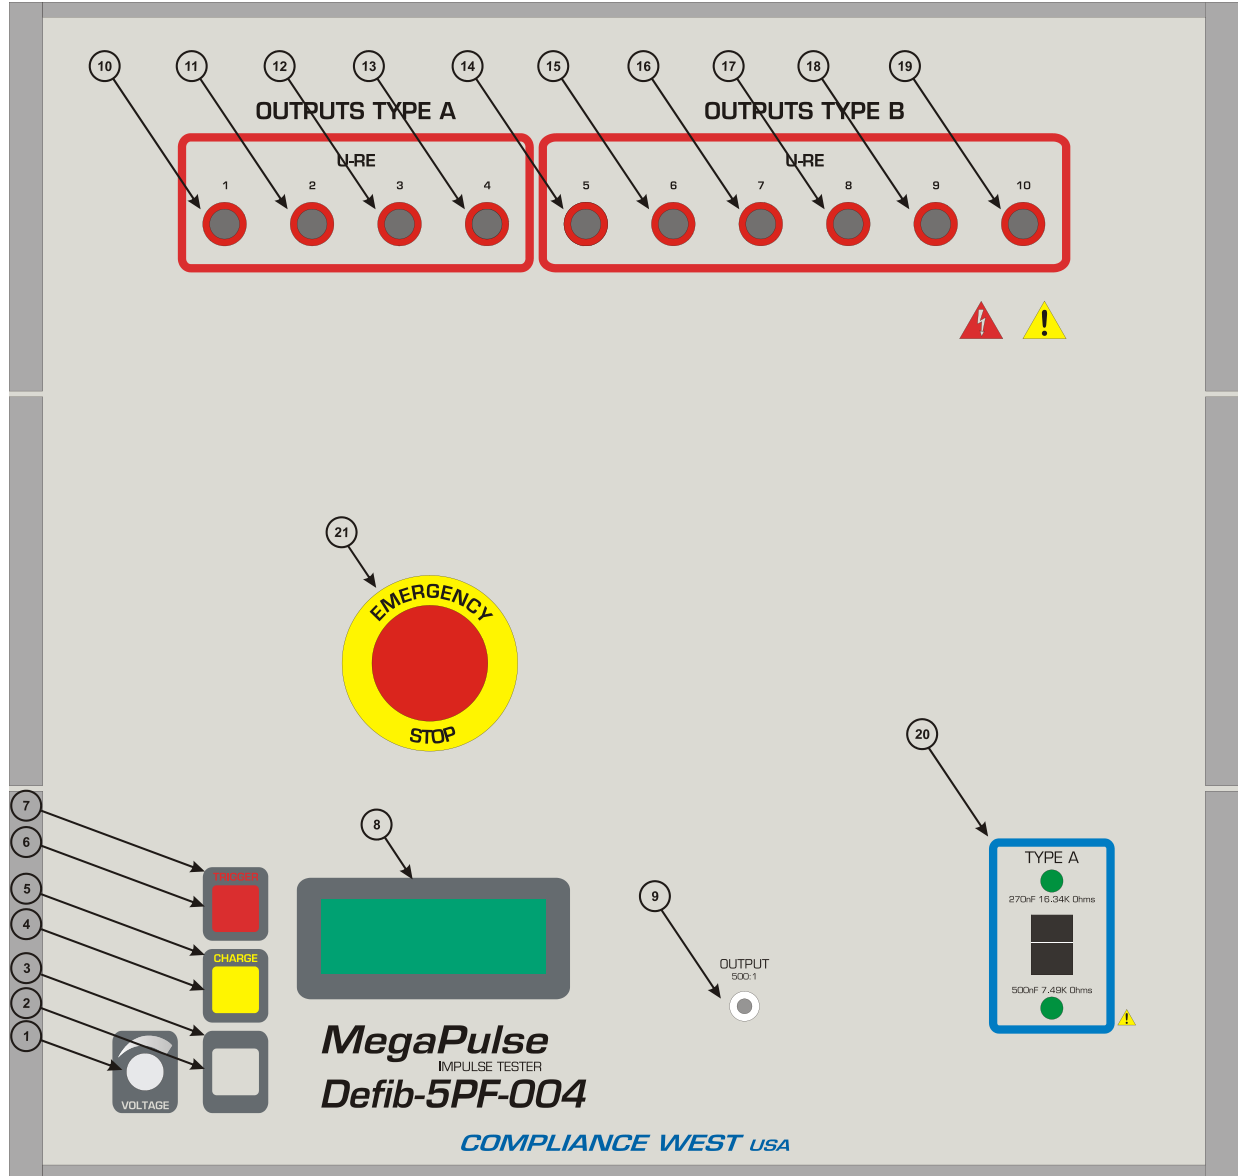
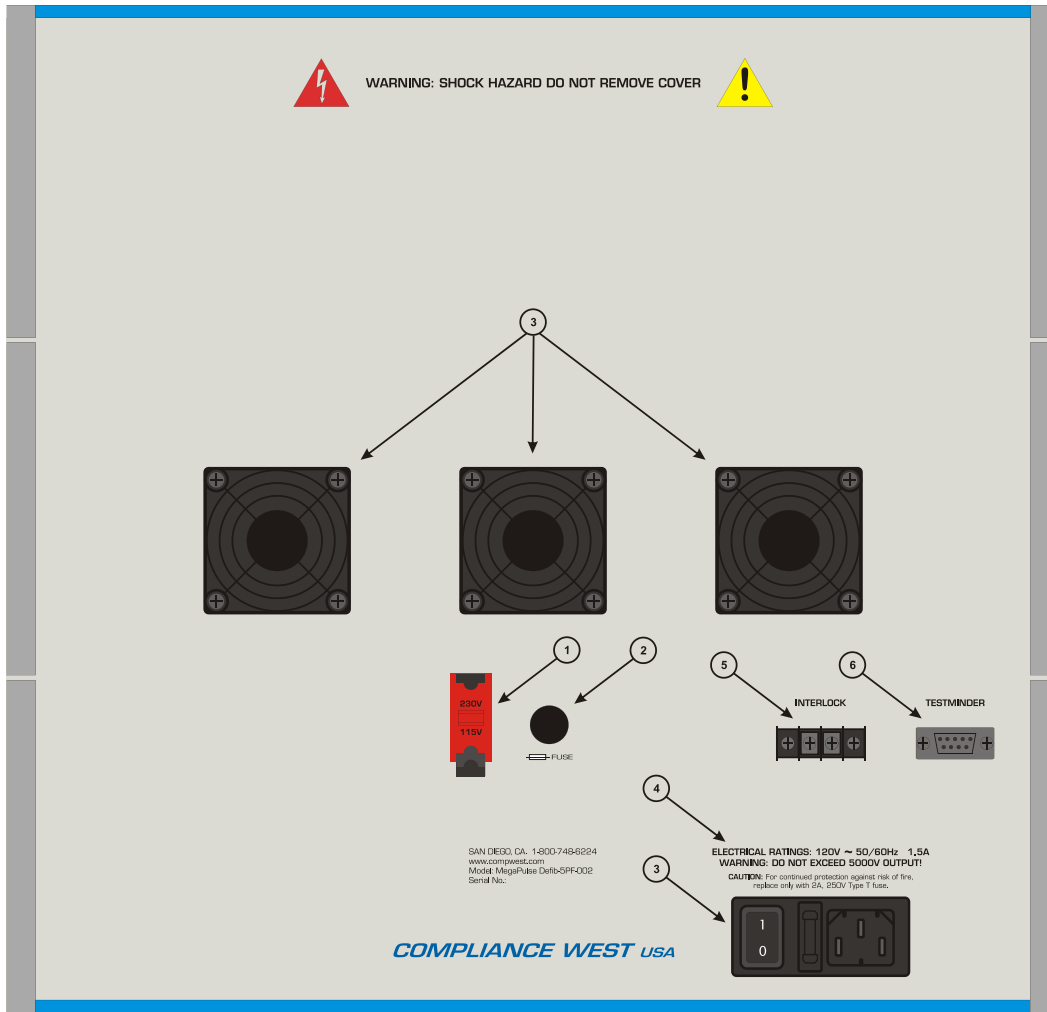

Figure 2 MegaPulse Defib-5PF-004 Front Panel
Figure 3 MegaPulse Defib-5PF-004 Rear Panel
Before using your Tester, take a few minutes to become familiar with the use of its controls, indicators and connectors. The front panel features of the MegaPulse are shown in Figure 2 and described in Table 3. The rear panel features of the MegaPulse are shown in Figure 3 and described in Table 4.
3. Set the front panel switches depending the type of test need it. Follow the front panel directions or see Figure 3 for the electrical diagram.